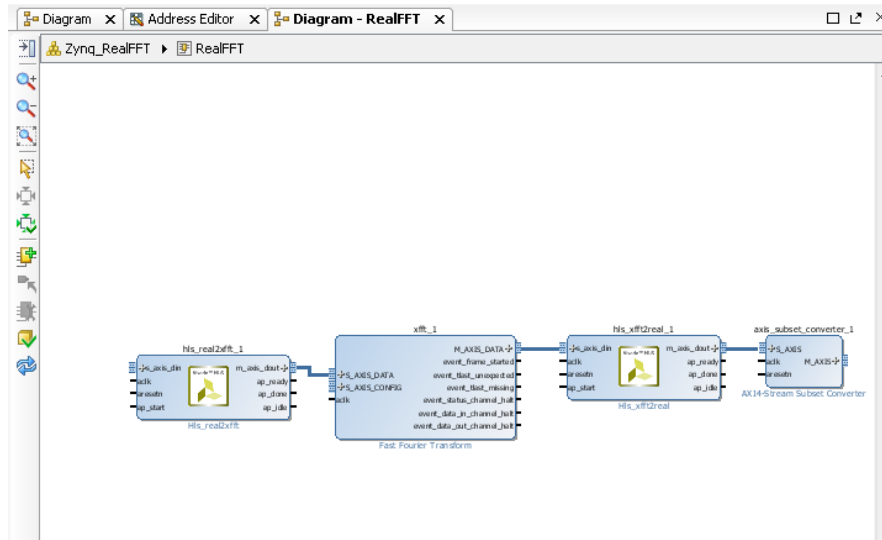

Figure 249: RealFFT Diagram
10. Double-click the **RealFFT** block to open its diagram (**Figure 249**).